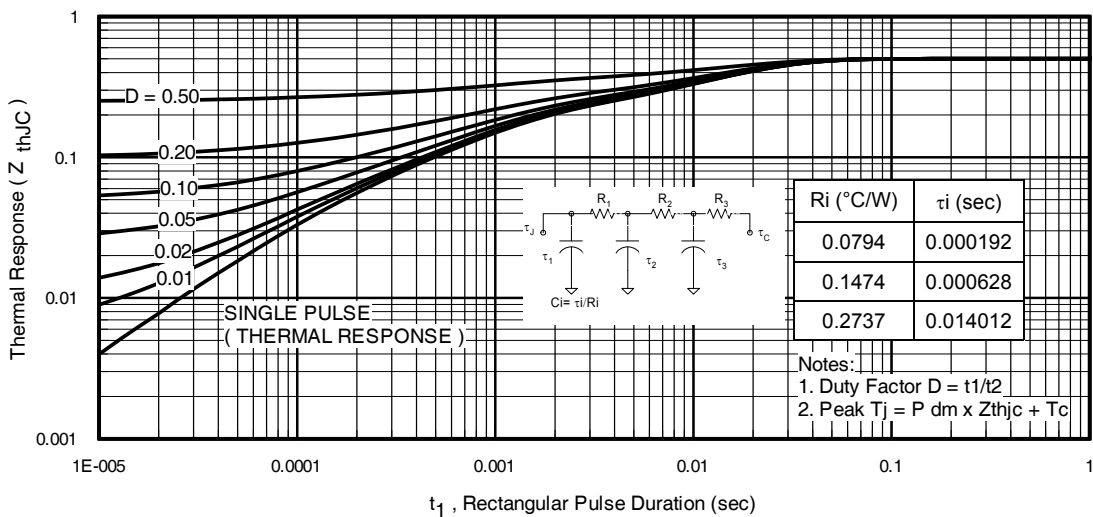

Fig 11. Maximum Effective Transient Thermal Impedance, Junction-to-Case
- ① Repetitive rating; pulse width limited by max. junction temperature. (See fig. 11).
- ② This value determined from sample failure population starting T_J = 25°C, L=0.043mH, R_G = 25Ω, I_{AS} = 140A, V_{GS} = 10V.
- ③ Pulse width ≤ 1.0ms; duty cycle ≤ 2%.
- ④ C_{oss eff.} is a fixed capacitance that gives the same charging time as C_{oss} while V_{DS} is rising from 0 to 80% V_{DSS}.
- ⑤ This is applied to D²Pak, when mounted on 1" square PCB (FR-4 or G-10 Material). For recommended footprint and soldering techniques refer to application note #AN-994.
- ⑥ R_θ is measured at T_J of approximately 90°C.
- ⑦ Solder mounted on IMS substrate.
- ⑧ Limited by T_{Jmax} starting T_J = 25°C, L=0.043mH, R_G = 25Ω, I_{AS} = 140A, V_{GS} = 10V. Part not recommended for use above this value.
$Z_{thJC}(D, t_{av})$ = Transient thermal resistance, see Figures 11)